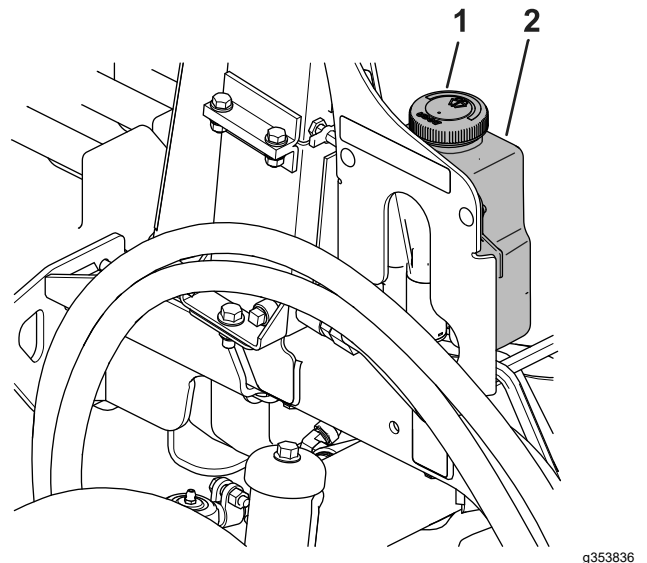

Figure 90
1. Remove the cap (Figure 90) on the reservoir.